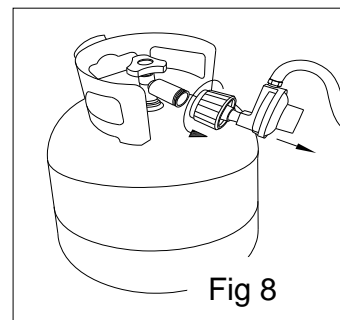

Fig 8
- 5- Disconnect the regulator and the cylinder as per Fig.8